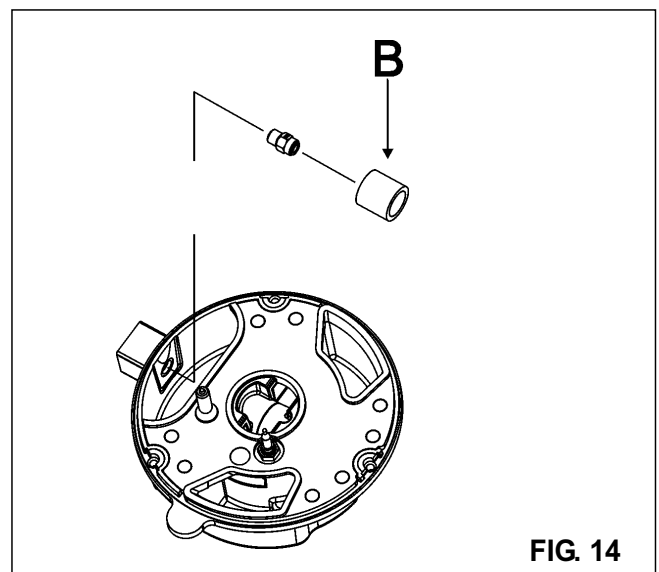

FIG. 14
**Mount with bushing (B) if present (see Fig. 14).